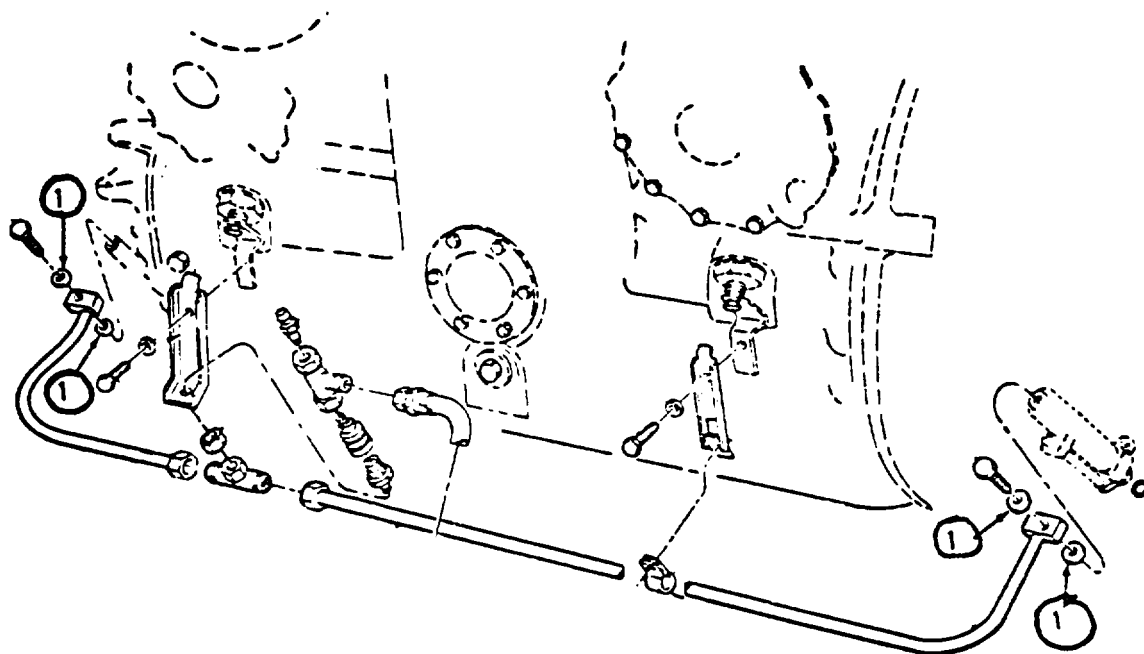

Figure 1. Brake lines.
3. Clean, file or scrape uneven spots on ring seal to a smooth mating surface for re-installation; See figure 1, item 1.